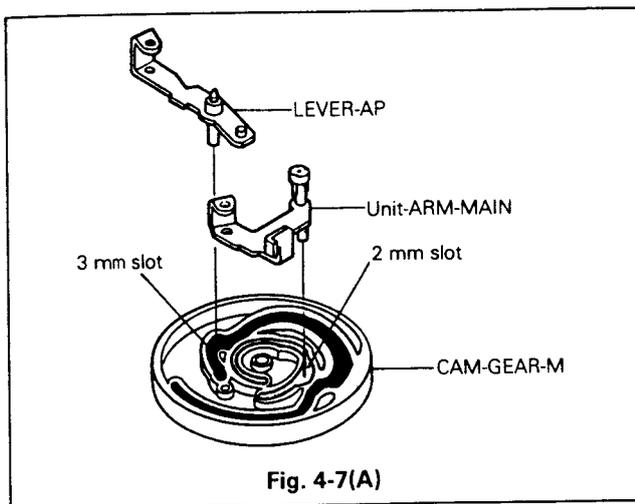

Fig. 4-7(A)
- Set the gears so the positioning bore holes both for CAM-GEAR-M and main plate line up with each other (see Fig. 4-8(B)), confirm that the UNIT-ARM-MAIN pin on the front side of deck fits, in the 2 mm slot of CAM-GEAR-M, and the LEVER-AP pin shall be fits, in the 3 mm slot (see Fig. 4-7(A)).
- Set ARM-LOAD pin so it fits in the slot of CAM-GEAR-M as shown in Fig. 4-7(B).
- Install ARM-LOAD-T, refer to Fig. 4-7(B).